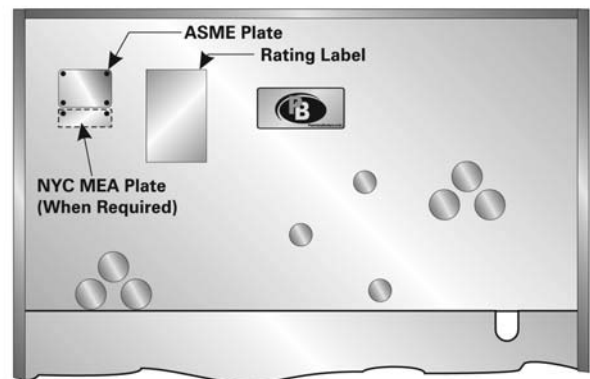

Figure 4.1: Location of Rating, Agency and Instruction Plates on Jacket Front Top Panel
1. Mount Boiler Rating Plates and Agency Plates on the Upper Jacket Front Panel as shown in Figure 4.1.